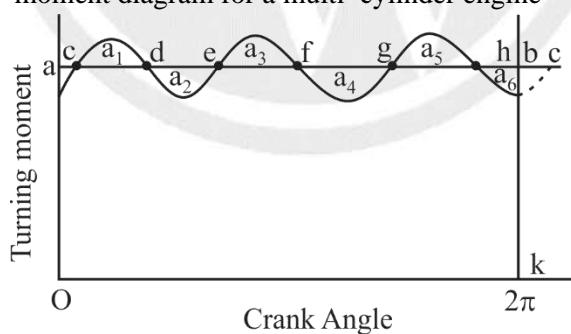

Fig. 6.2 Turning moment diagram
(2) Multi – Cylinder Engines –
- Fig. 6.2 shows the turning – moment diagram for a multi–cylinder engine